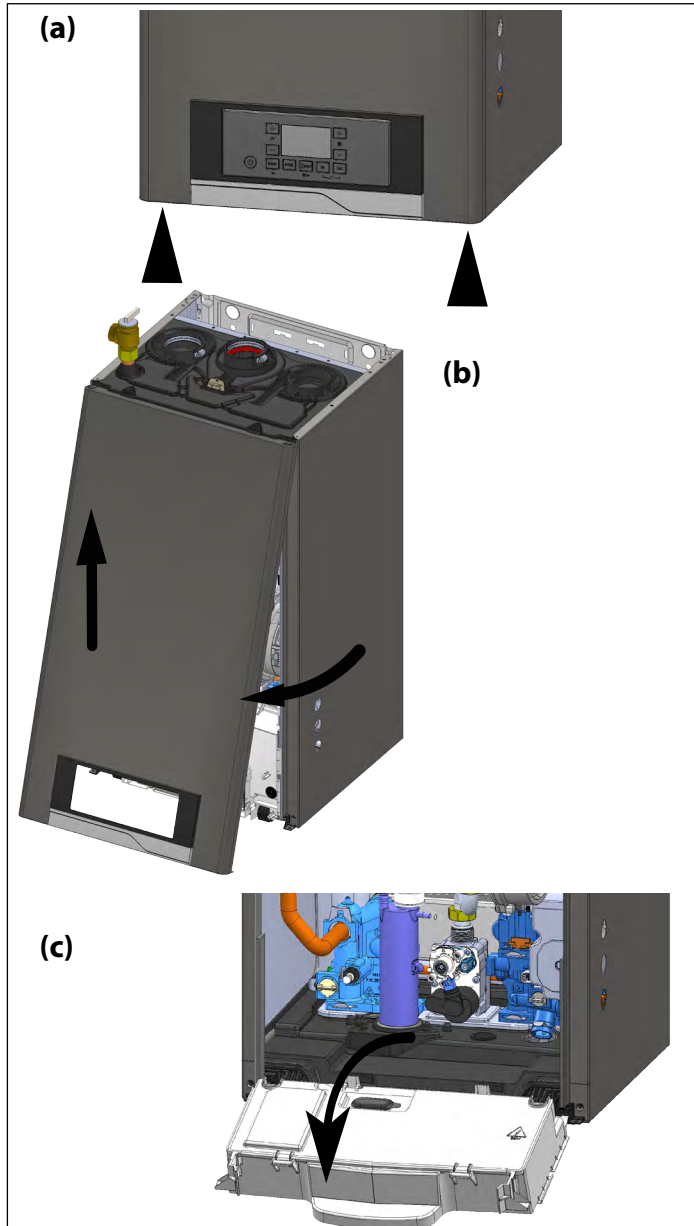

Figure 96 - Removing Housing
See Figure 96 to access the interior of the boiler:
- Remove the front panel as shown in Figure 96.